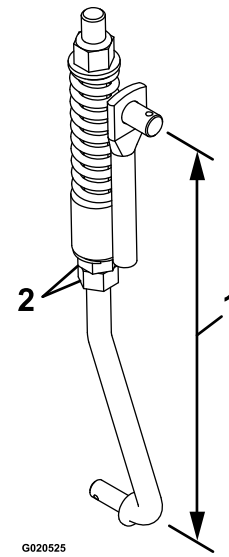

Figure 56
8. Adjust the linkage length with the 2 nuts at the bottom of the vertical spring assembly (Figure 56).